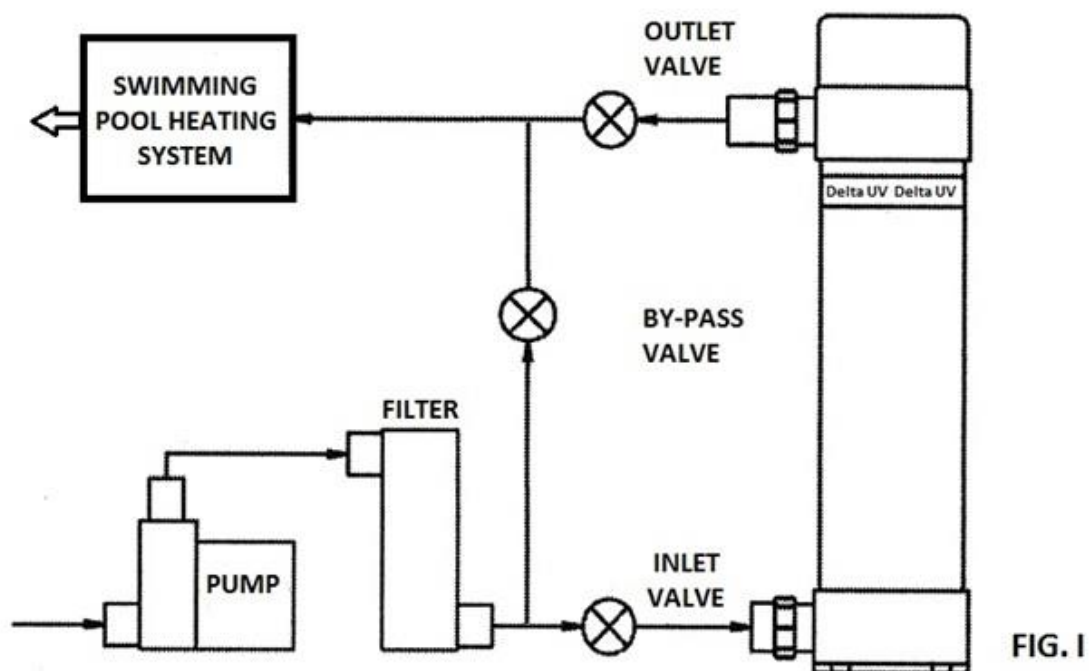

FIG. 1
**Plumbing The UV Unit** - Your DELTA UV unit will need to be plumbed into your pond or swimming pool circulation system. The diagram (Fig. 1 found on pg. 10) shows how the unit is to be plumbed. Note that the water is to be piped from the pressure side of the pump and after the filter, in and out of the DELTA UV unit. The inlet for the water is at the bottom of the DELTA UV unit, and the outlet is at the top of the DELTA UV unit. If your pump exceeds the maximum flow rate of the DELTA UV unit, installation of a plumbing by-pass/maintenance isolation loop will be necessary to bypass some of the pump's flow around the DELTA UV unit so the maximum flow rate of the DELTA UV unit will not be exceeded. **A bypass system is recommended in all installations.**